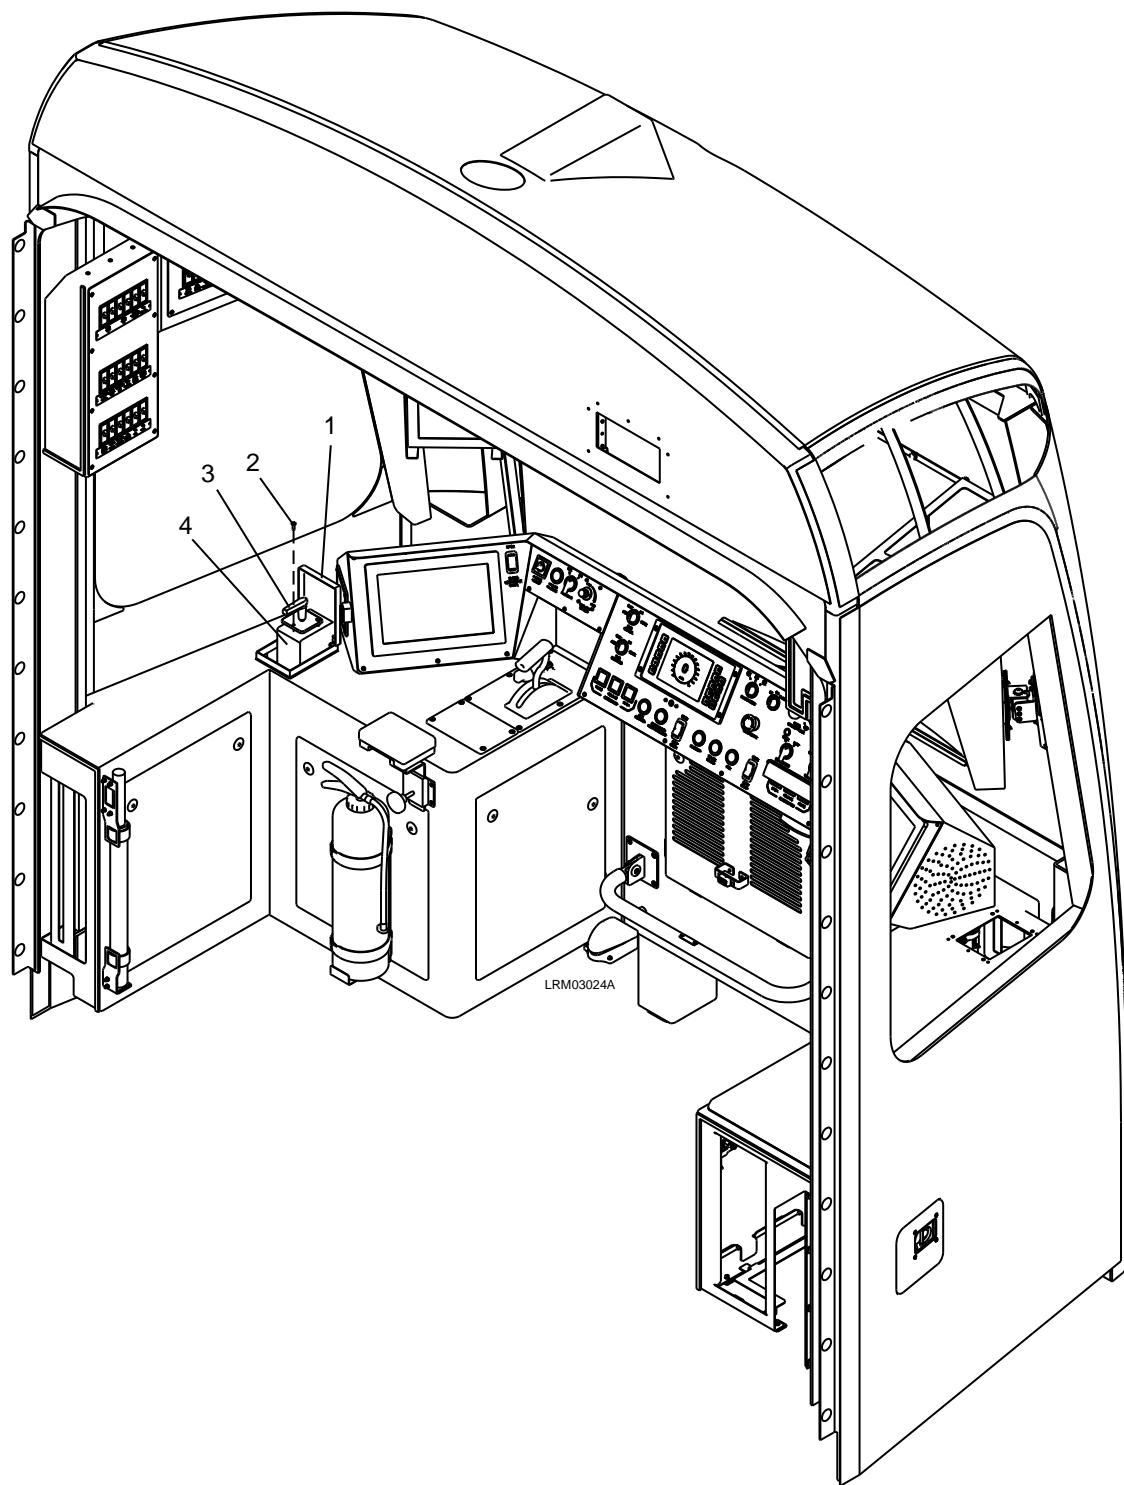

Figure 7-20: Coupler Loop Switch
1. Lift the coupler loop switch cover (1). See Figure 7-20.